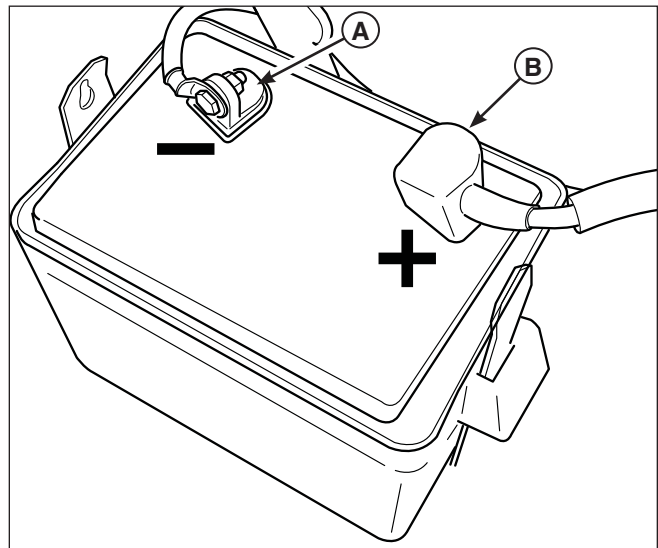

Figure 35. Battery Compartment
1. Disconnect the cables from the battery, negative [-] cable first (A, Figure 35).
3. Reinstall the battery and reattach the battery cables, positive [+] cable first (B).